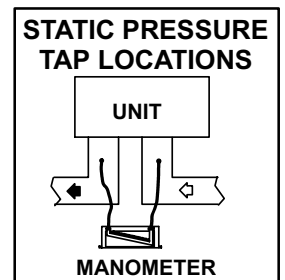

FIGURE 19
- a-Measure tap locations (figure 19).